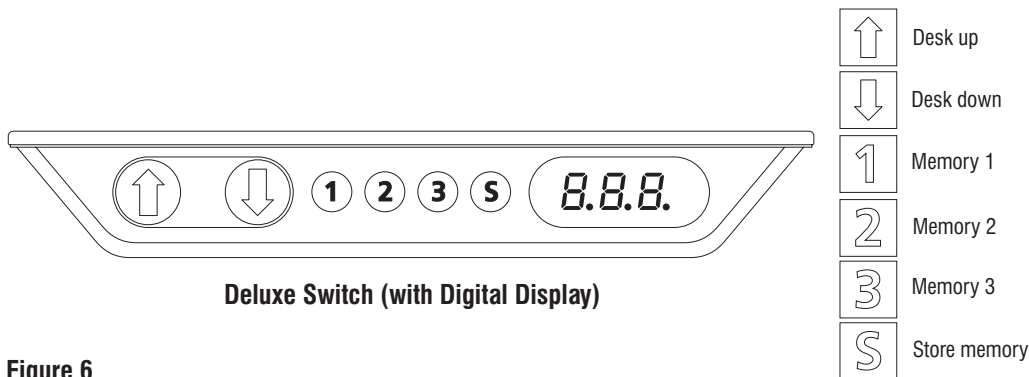

Figure 6
1. To raise or lower the unit, push and hold the Up or Down button, then release when the desired position is reached (Figure 6). The display will count up or down while running and continuously display the current height when the desired position is reached.
2. To store a position in memory, raise or lower the unit to the desired position. Press the Store memory button, the display will flash "S". Press the desired Memory button (1, 2 or 3) within two seconds. The position will be stored in memory and the display will show S1, S2 or S3 for one second. Up to three positions may be stored in memory (Figure 6).
3. To raise or lower to a pre-programmed position, push Memory buttons 1, 2 or 3 (Figure 6).